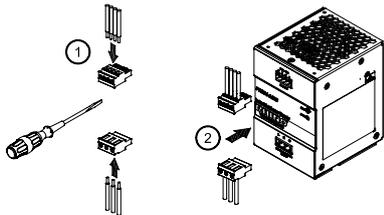

Figure 4
Caution: "Must tighten wire to terminal block (Fig.4 (1)) before plugging into the terminal block connection (Fig.4 (2)).